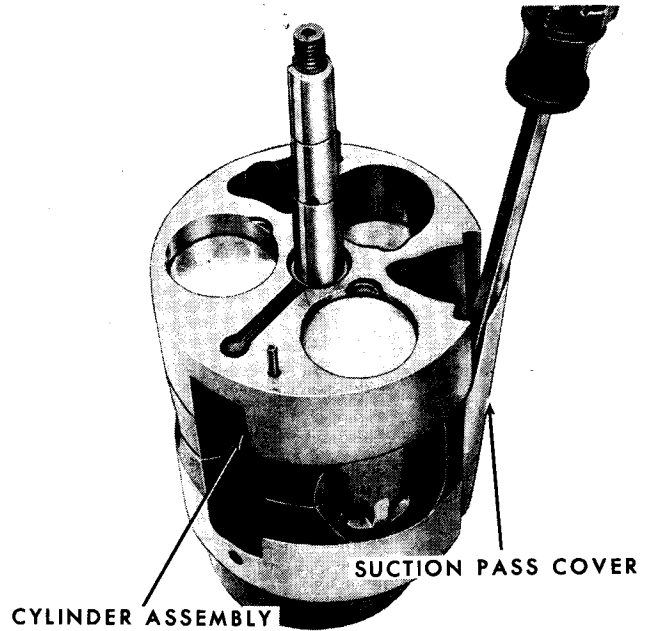

Figure 98—Removing Suction Crossover Cover
19. Remove suction crossover cover by prying with screwdriver between cylinder casting and cover (figure 98).